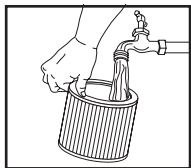

FIGURE 25
45. Or rinse (from the inside of the filter) with water. **FIGURE 25.** Dry completely (approximately 24 hours).